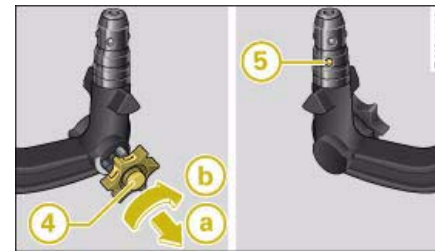

Fig. 199 Removable towing bracket: Setting the spring mechanism to the "ready" position
- Insert the key (4) ⇒ fig. 199 for locking the ball joint into the lock on the knob and turn it clockwise. ▶